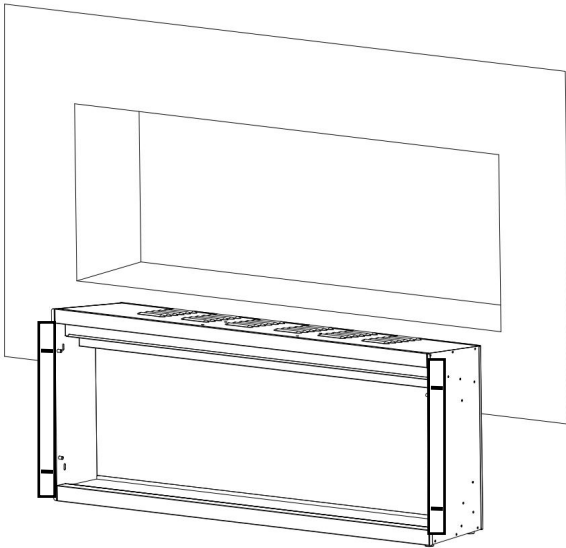
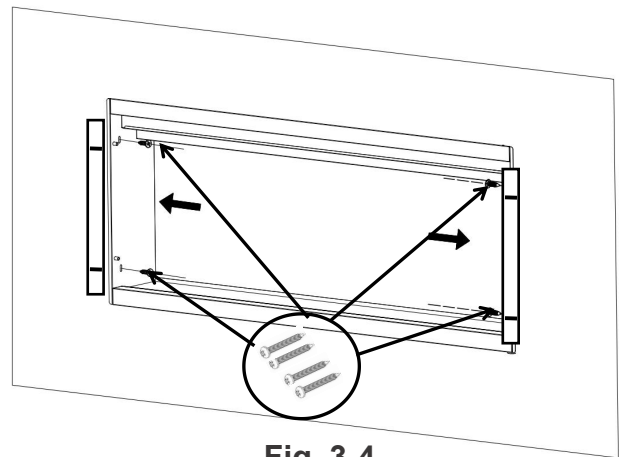

Fig. 3-3
Fig. 3-4
- D. Insert the fireplace into the rough-in frame and then secure it by installing 4 wood screws (A) through the holes (Fig. 3-3, Fig 3-4).